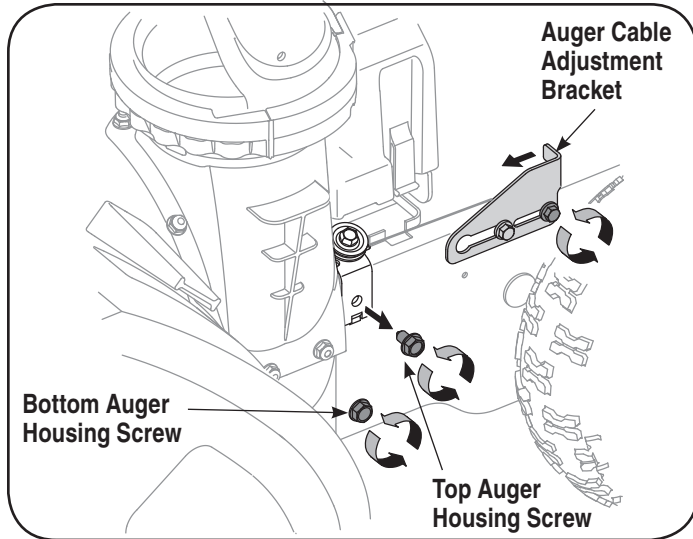

Figure 12
1. Loosen the rear hex bolt on the cable adjustment bracket. See Figure 12.
1. Loosen the rear screw on the auger cable adjustment bracket using a 3/8" wrench and slide the bracket all the way forward to provide maximum slack in the auger cable. See Figure 12.
3. Loosen the bottom auger housing mounting screw on each side one(1) full turn using a 1/2" socket. See Figure 12.